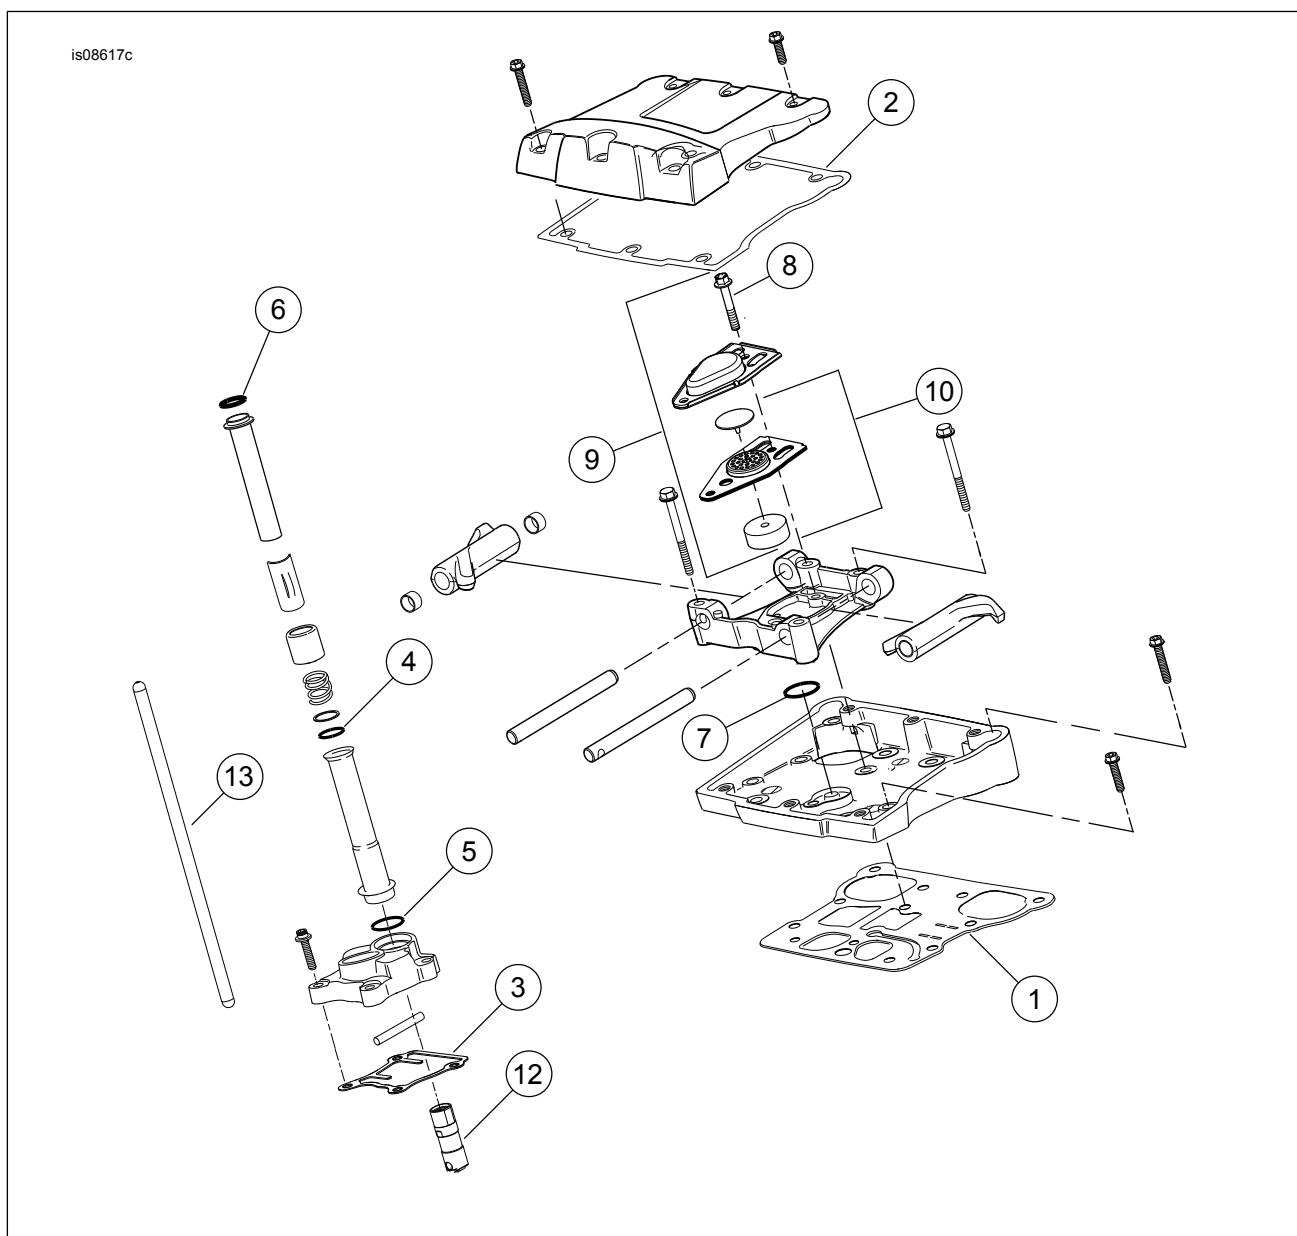
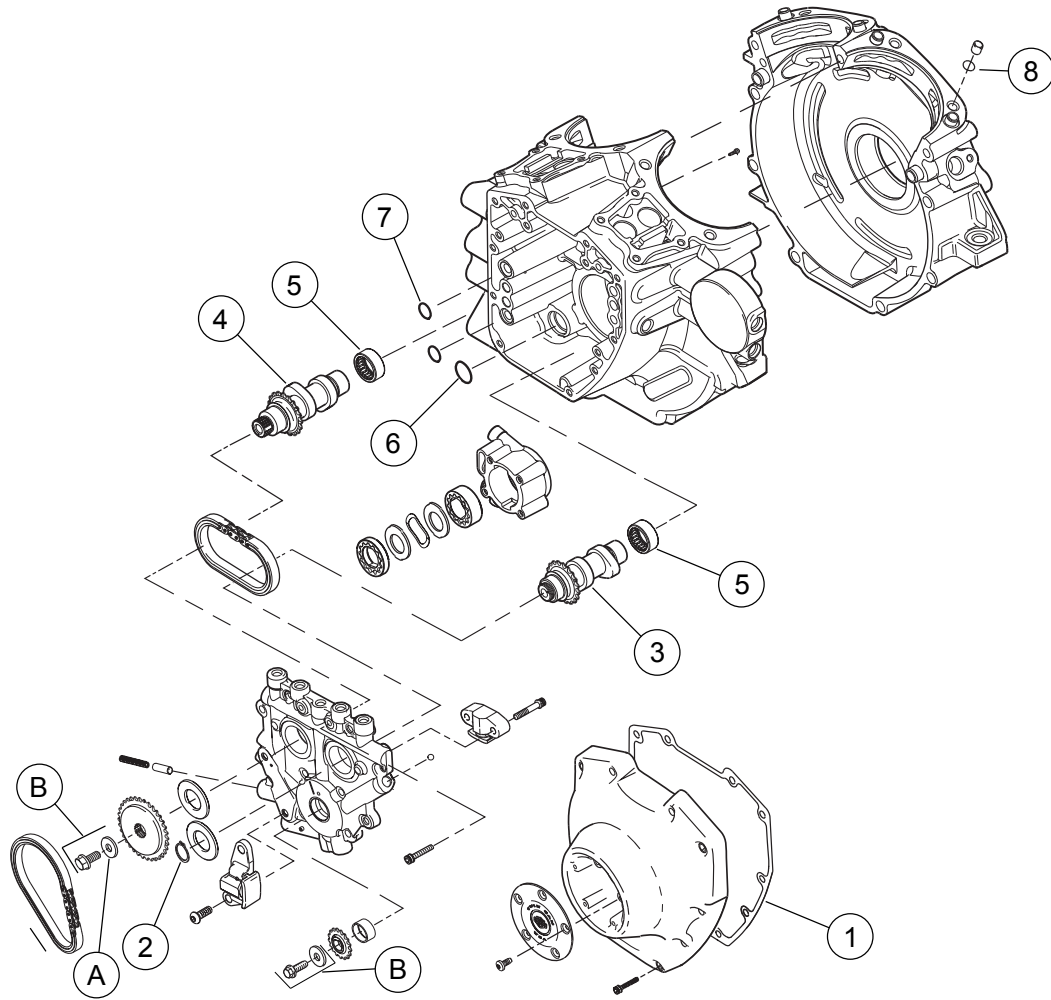

Figure 1. Service Parts: Screamin' Eagle Twin Cam 117 (1916 cc) Bolt-on Kit
Figure 3. Service Parts: Screamin' Eagle Twin Cam 117 (1916 cc) Bolt-on Kit
See Figure 1 to Figure 3, and Table 1 to Table 3.
1. See Figure 3. Install new inner cam bearings included with this kit.
2. See Figure 1 through Figure 3. Assemble cams to cam plate and engine top end using parts from kit. Refer to appropriate ENGINE sections in service manual.